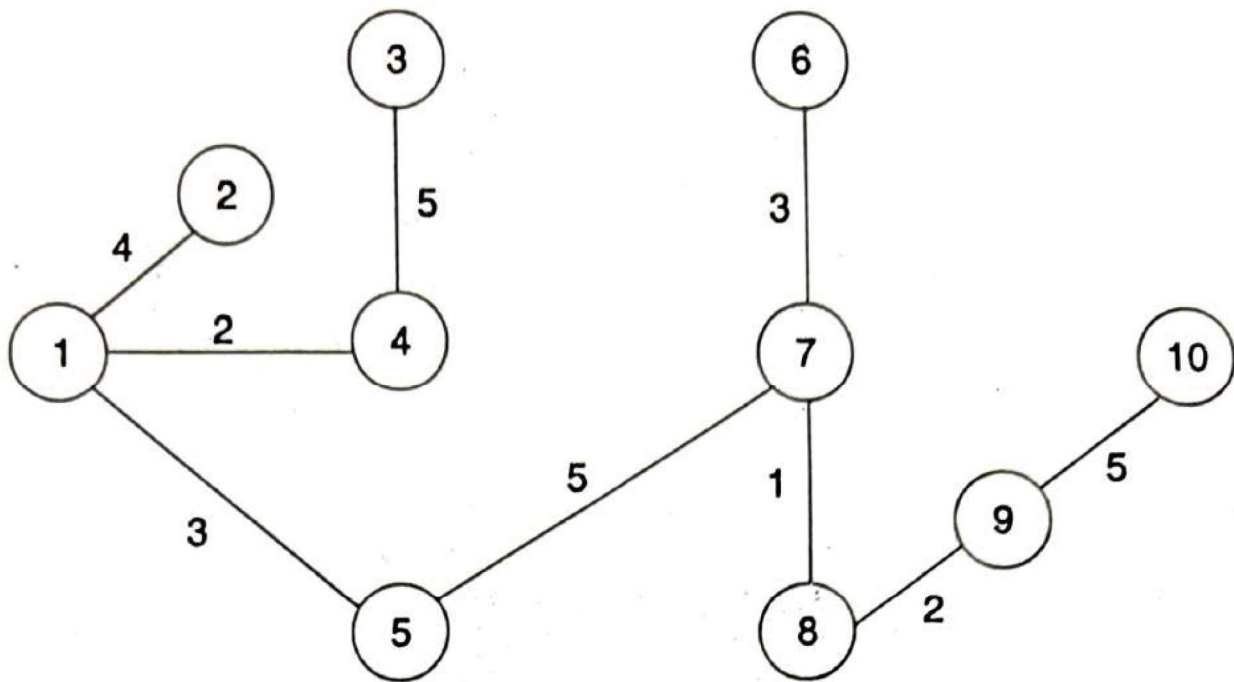

Fig. 5.22 Minimum spanning tree.
Step 8: The minimum spanning tree is shown in Fig. 5.22 and the corresponding minimum total length of the arcs is 30.